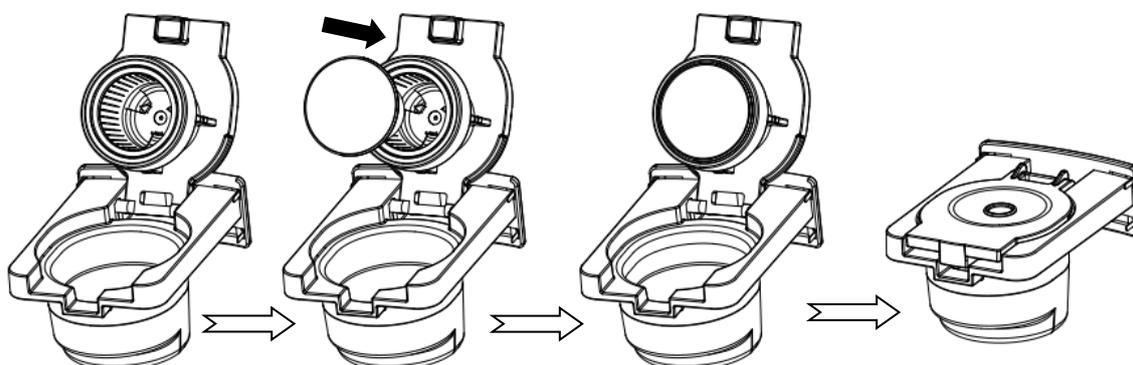

Figure 12
5. Open the top of the adapter. Place the rounded end of a Nespresso® capsule in the adapter and press down to pierce the capsule. Note: After placing the capsule, close the lid. The lid may sit slightly higher than when empty (by 1-2mm), which is normal. Ensure the adapter is smoothly inserted into the main machine; if there is resistance, press the lid firmly to make sure the capsule is properly positioned. Refer to Figure 12.